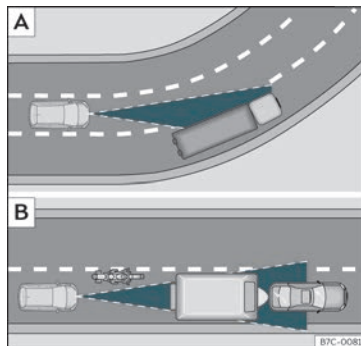

Fig. 164 [A] Vehicle on a bend. [B] Motorcyclist ahead, out of range of the radar sensor.
The ACC may not detect the vehicle in front on a curve, or may regulate the distance from vehicles in other lanes >>> Fig. 164 [A].
- Vehicles that are not aligned while driving or that are outside the sensor's detection area, such as motorcycles >>> Fig. 164 [B].